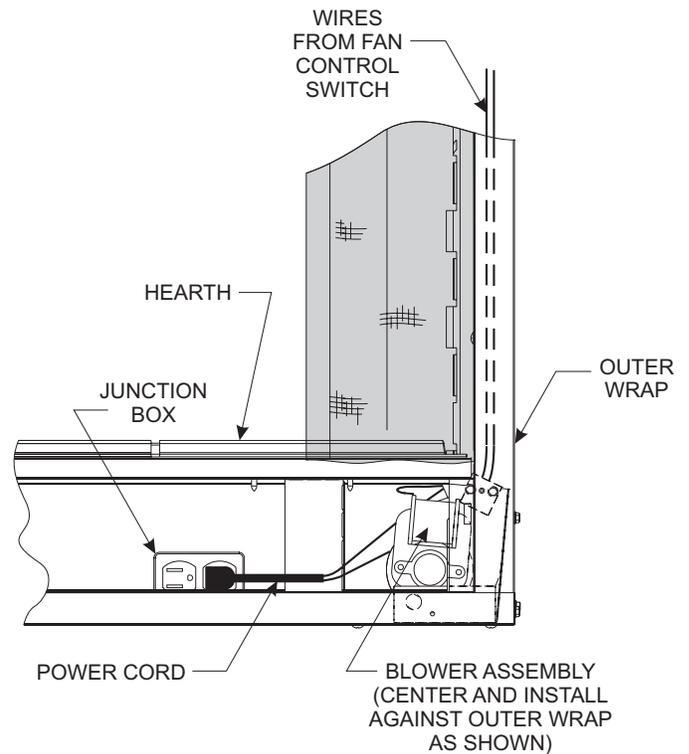

Figure 16
4. Insert blower assembly into interior, bottom of firebox. Position blower assembly so that you align the notch on back of blower assembly with the center screw on side/end panel, then push the blower assembly against firebox outer panel. The blower wheel must be centered with the side/end wall of the firebox. The magnets on the back and bottom of blower assembly will sufficiently hold blower assembly in place. **See Figure 16.**
7. The fan control wires will slide down between the firebox and outer wrap near the blower assembly. **See Figure 16.**
11. To complete the installation, plug the power cord into the junction box receptacle previously installed in the bottom of the firebox. **See Figures 16 and 18.**